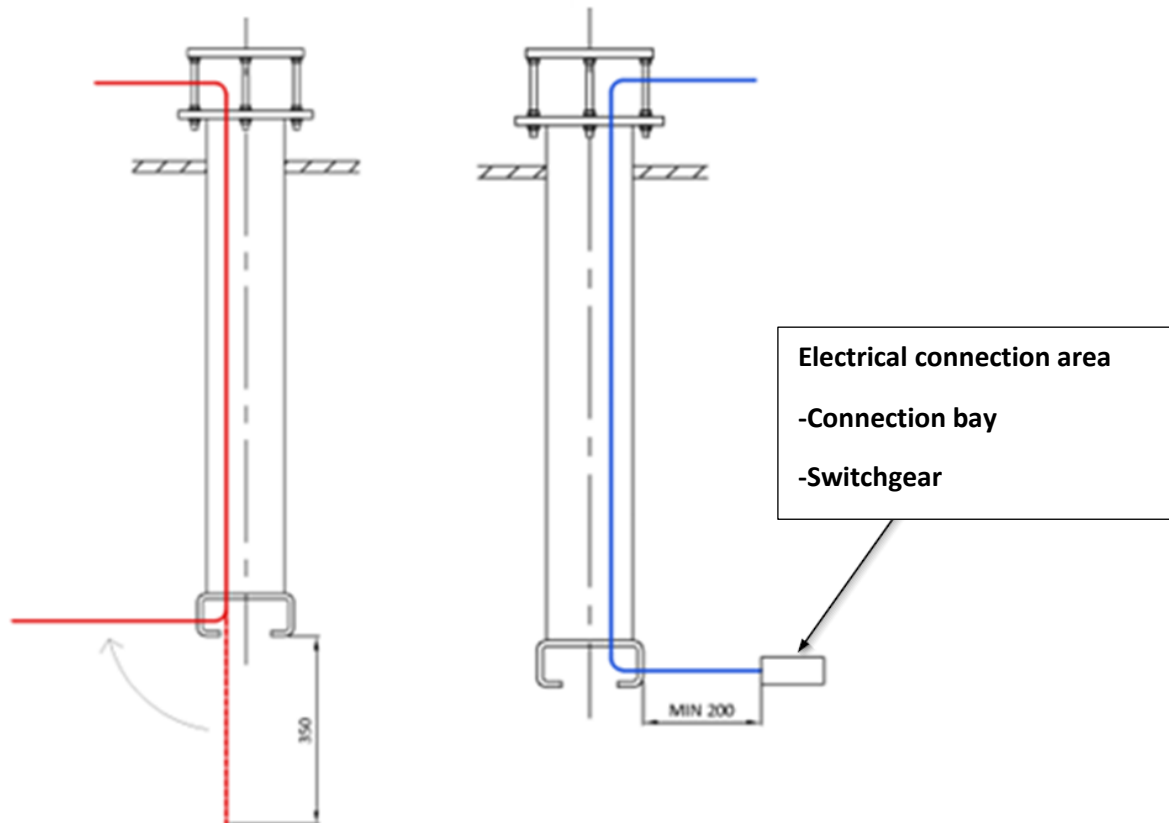

Fig. 12 Preparation of supply lines
- The ceiling trim (3) is later mounted flush with the ceiling and covers the counter plate (4). See figure 12.